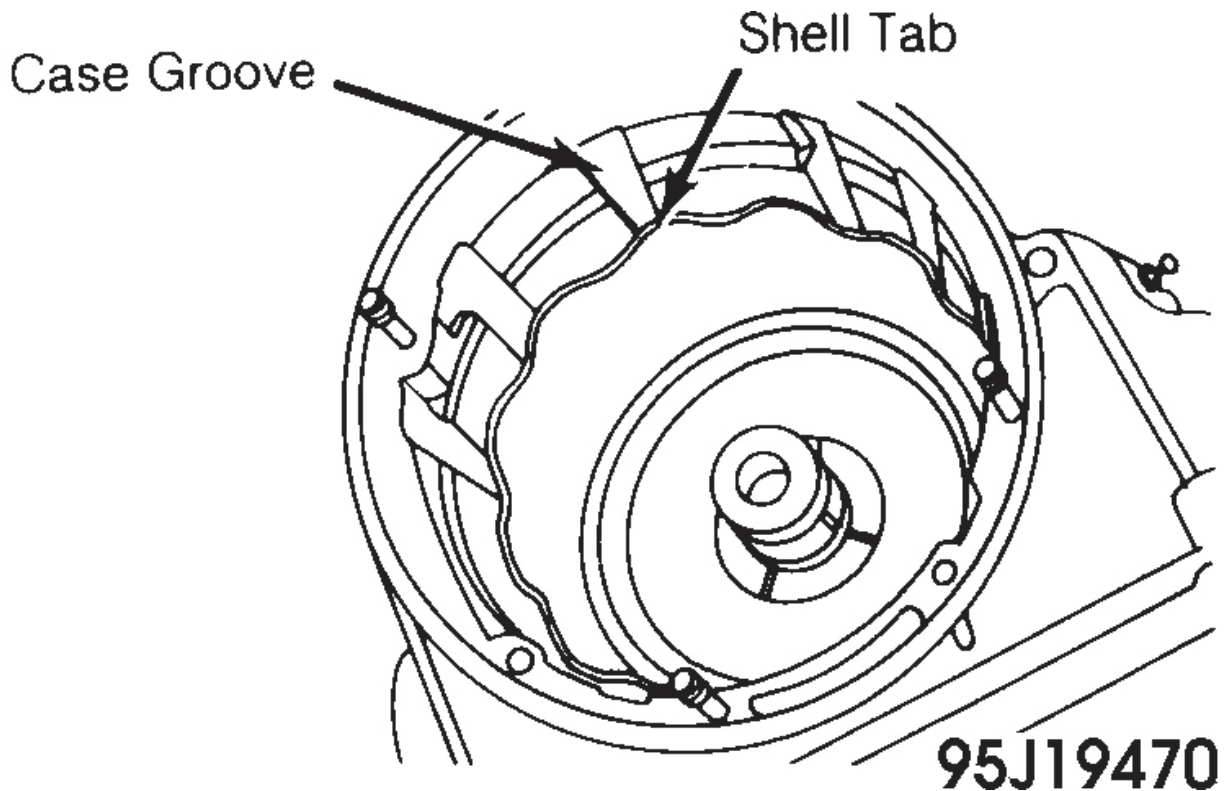

Fig. 25: Installing 1st/Reverse Gear Driving Shell
2. Before installing 1st/reverse gear driving shell, measure overall length to ensure proper component is installed. Shell length is 3.957" (100.50 mm). Install apply shell into case so that tab of shell engages upper groove in transaxle case. See **Fig. 25**.